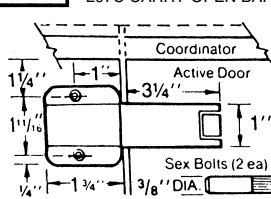

FIG. 7
- NOTE:** Install and adjust door closing devices for desired closing speeds. Pre-set tension on Lever Torsion Spring holds active door open until trigger is depressed by closing of inactive door. If active door over-rides Lever before trigger is depressed increase tension as shown in Figure 7.